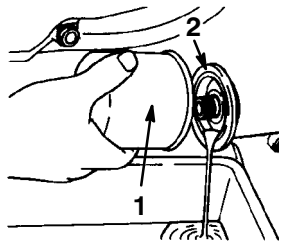

Figure 32
- Place a suitable drain pan under the oil filter connection (Fig. 32).
- Install new oil filter by rotating it clockwise until the seal contacts the mounting surface (Fig. 32). Then rotate the oil filter 3/4 turn more by hand.